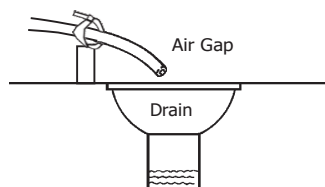

Figure 1
- Place approximately 1" (25 mm) of water above the grid plate. If a grid is not utilized, fill to the top of the air check (Figure 1) in the salt tank. Do not add salt to the brine tank at this time.